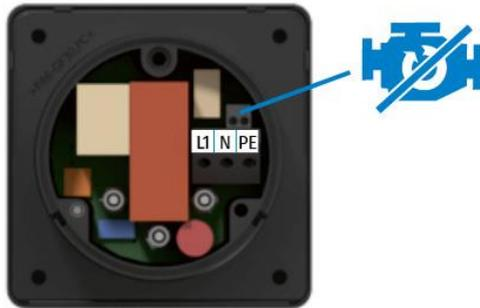

Figure 2: Connections
3. Connect the wires of the connection cable to the corresponding screw terminals (see Figure 2).